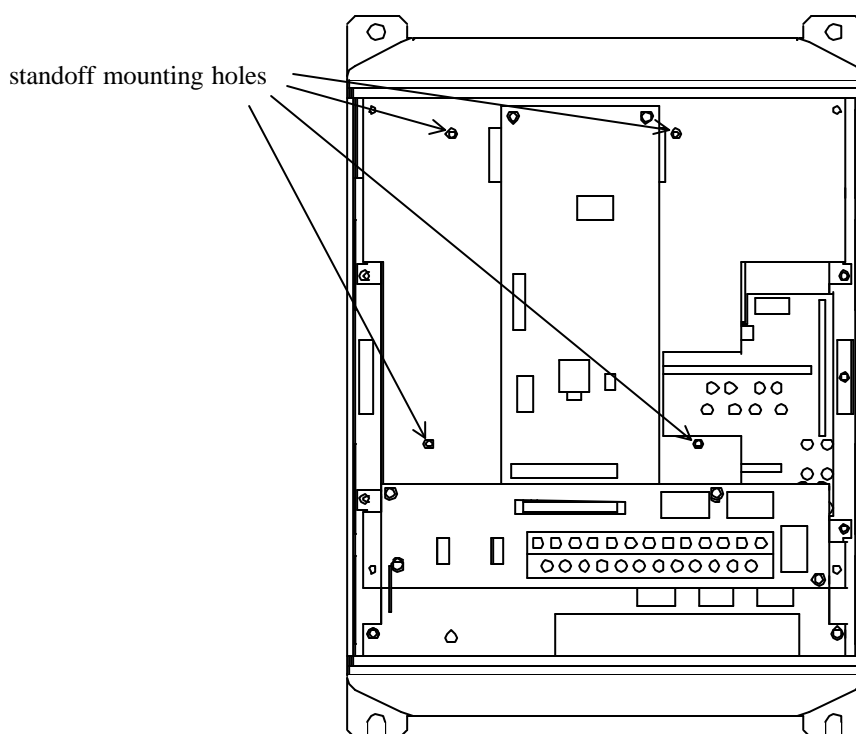

Figure 2: G3 with front cover and operation panel support bracket removed
8. Install the 4 nylon standoffs into the holes provided in the control board support bracket (refer to Figure 2).